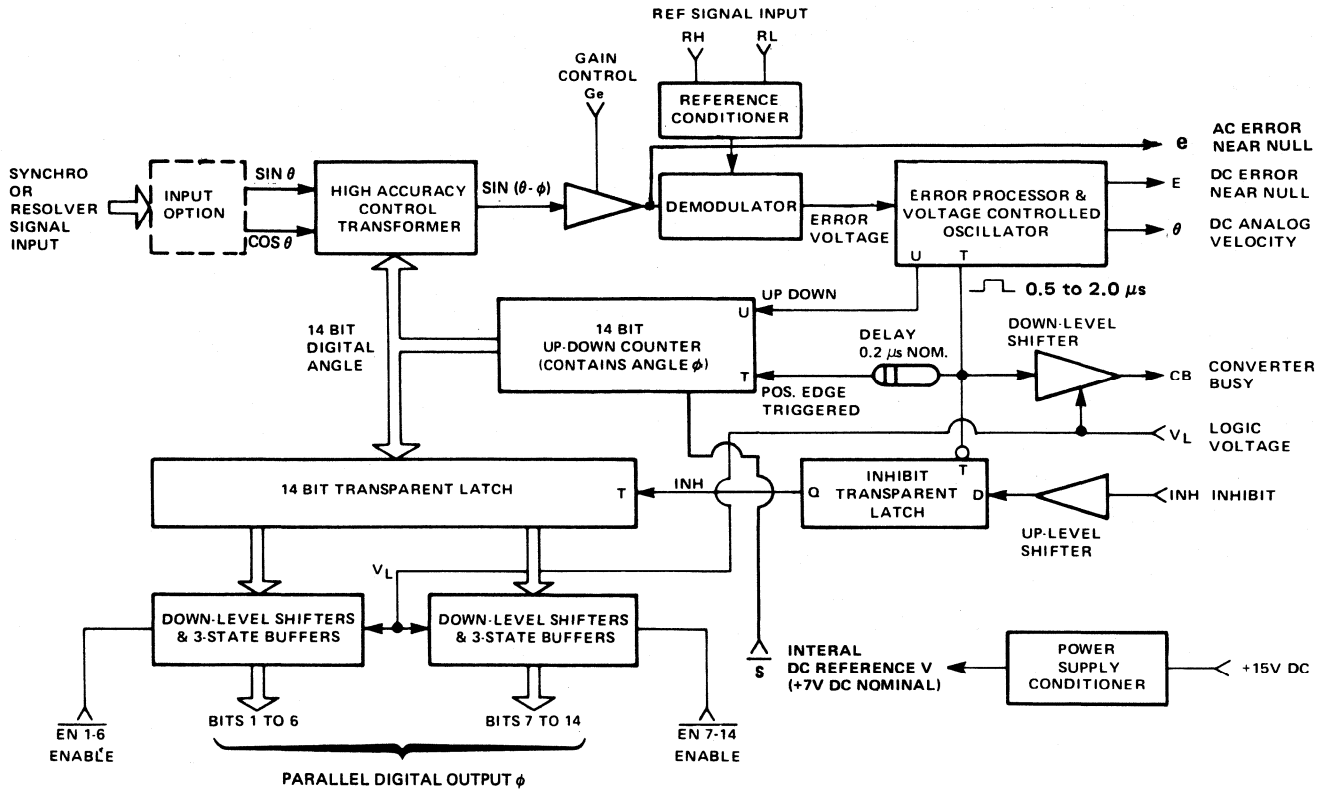

FIGURE 1. HSDC-8915 SERIES BLOCK DIAGRAM
The circuit shown in the HSDC-8915 block diagram, Figure 1, consists of three main parts: the signal input option; a feedback loop whose elements are the control transformer, demodulator, error processor, and up-down counter; and digital interface circuitry including various latches and buffers.
Logic outputs consist of 14 parallel data bits and a Converter Busy (CB). All logic outputs are short-circuit proof to ground and to positive voltages as high as V_L . The CB output is a positive 0.5-2.0 μs pulse, and data changes about 0.2 μs after the leading edge of the pulse because of an internal delay (see Figure 1). Data is valid 0.5 μs after the leading edge of a CB. If the converter is operated with fewer than 14 bits, the unused LSB bits should be left unconnected.
The Inhibit (INH) logic input locks the 14 bit transparent latch so that the bits will remain stable while data is being transferred (see Figure 1). The output is stable 0.5 μs after the Inhibit is driven to logic 0. A logic 0 at the T input locks the 14 bit latch, and a logic 1 allows the bits to change. The purpose of the INH transparent latch is to prevent the transmission of invalid data when there is an overlap between the CB and INH. While the counter is not being updated the CB is at logic 0 and the INH latch is transparent. When the CB goes to logic 1 the INH latch is locked. If a CB occurs after an INH has been applied, the 14 bit latch will remain locked and its data cannot change until the CB returns to logic 0. If an INH is applied during a CB pulse, the 14 bit latch will not lock until the CB pulse is over. The purpose of the 0.2 μs delay is to prevent a race condition between the CB and the INH in which the up-down counter begins to change just as an INH is applied.